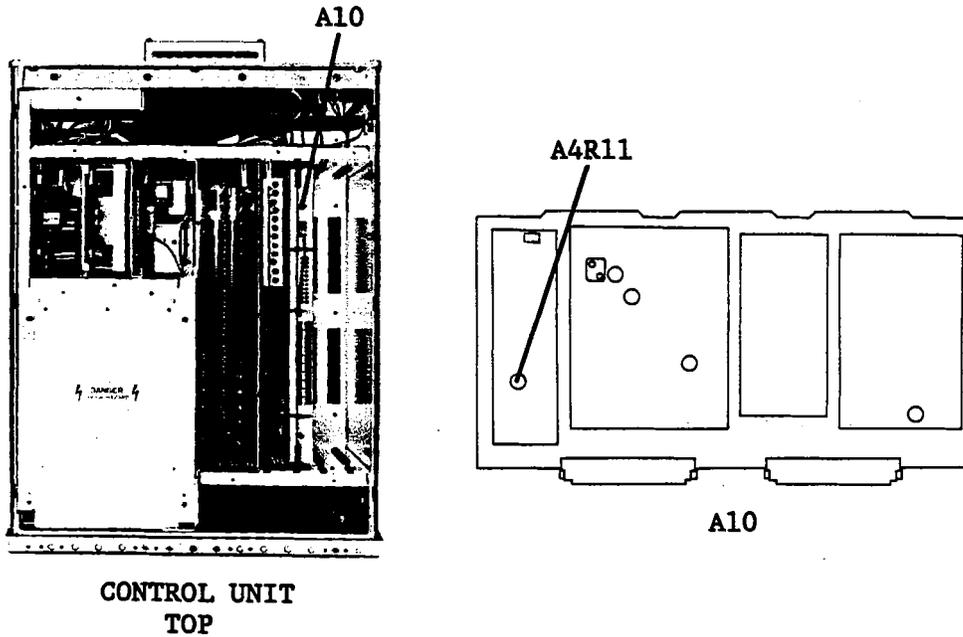

Figure 3-34. 80 MHz Reference Source Frequency Adjustment Locations
7. Adjust A10A6R12 (100 kHz NULL ADJ) until the 100 kHz sideband spurious signal level is minimum and  $< -80$  dBc. Figure 3-34 (2) shows a correctly adjusted trace.